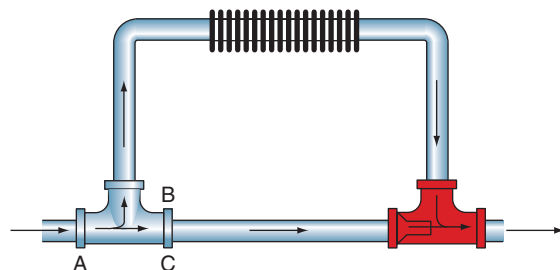
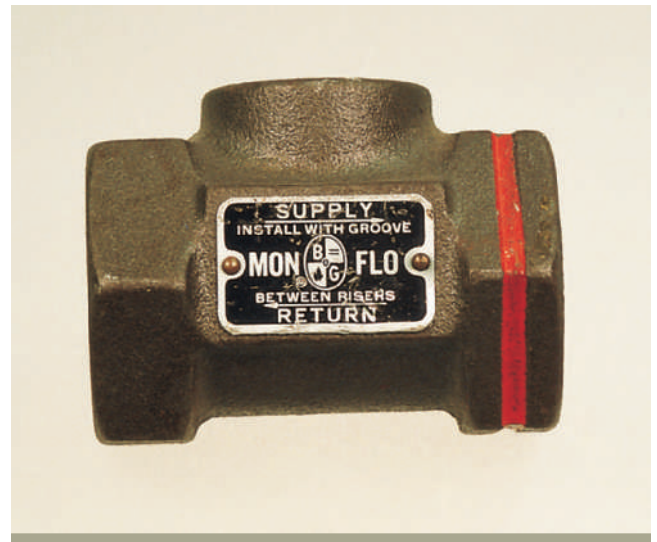
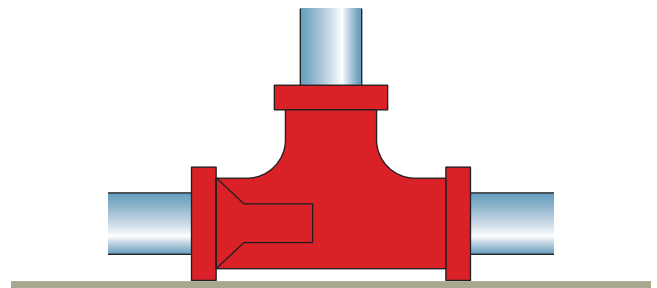

FIGURE 17-41 Common piping between the tees. Diverter tee located at the return side of the terminal unit.
FIGURE 17-43 Diverter tee.
FIGURE 17-44 Cross-sectional view of a diverter tee.
Consider a portion of the piping circuit that includes one terminal unit and the portion of main loop piping between the tees shown in Figure 17-41. The water entering the tee at point A flows through the tee and can leave the tee through either point B, which leads to the terminal unit, or through point C, which allows the water to continue through the main water path connected between the boiler's supply and return pipes. Just as electric current takes the path of least resistance in a parallel circuit, the amount of water flow through the terminal unit is determined by the relationship between the resistance
The **diverter tee** (Fig. 17-43), also referred to as a **monoflo tee**, is designed to increase the resistance to water flow in the main water loop. This increase in resistance will direct more water through the terminal unit branch circuit. The diverter tee is constructed with a cone inside (Fig. 17-44) that, in essence, reduces the diameter of the pipe in the main loop, increasing its resistance. This pushes more water through the terminal unit loop. A typical loop using the diverter tee is shown in Figure 17-41 at the outlet of the terminal unit. When working with diverter tees, remember the following:
- ✓ If the terminal unit is located above the main hot water loop and the length of the piping in the terminal unit branch is not excessive (not too long with respect to the main hot water line), one diverter tee should be used on the return side of the terminal unit (Fig. 17-41).